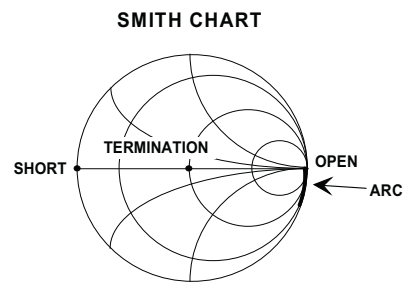

Figure 8-6. Smith Chart Display 2
3. **Connect the Open:** An Open appears as an arc on the chart's right edge. This is due to the fringing capacitance of the Open standard (Figure 8-6).